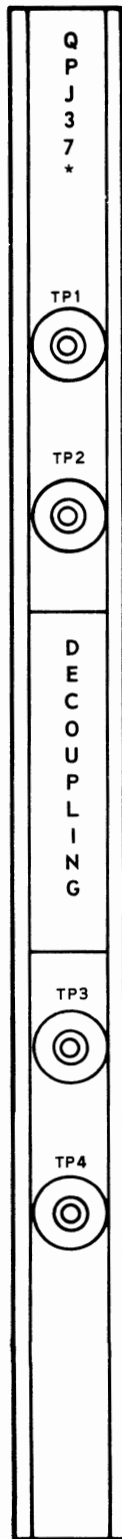

Fig. 5 — Test Point Arrangement on QPJ37-Type Circuit Pack
4.23 The QPJ37-type circuit pack (Fig. 5) contains the decoupling capacitor for the +24 V, -24 V, and +5 V supply on the line shelves.